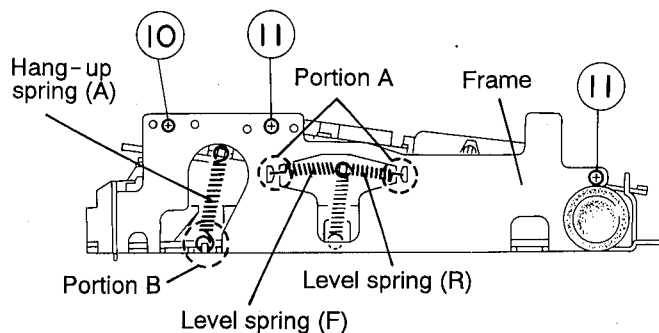

Fig. 4-14
4. Remove only the portion A of four level springs (F and R) on the right and left sides of the CD mechanism assembly (See Figs. 4-14 and 4-15).
5. Remove only the portion C of two hang-up springs (A) on the right and left sides of the CD mechanism assembly (See Figs. 4-14 and 4-15).
7. By removing four screws (9×2 and 10×2) retaining the TTB guide bracket, dismount the disc guide from the frame (See Figs. 4-14, 4-15 and 4-18).
10. From both sides of the frame, remove four screws (11) retaining the damper (See Figs. 4-14 and 4-15).
6. Tighten four screws retaining the right and left side dampers (See Figs. 4-14 and 4-15).
9. Set the respective springs to the specified positions (See Figs. 4-14 ~ 4-17).